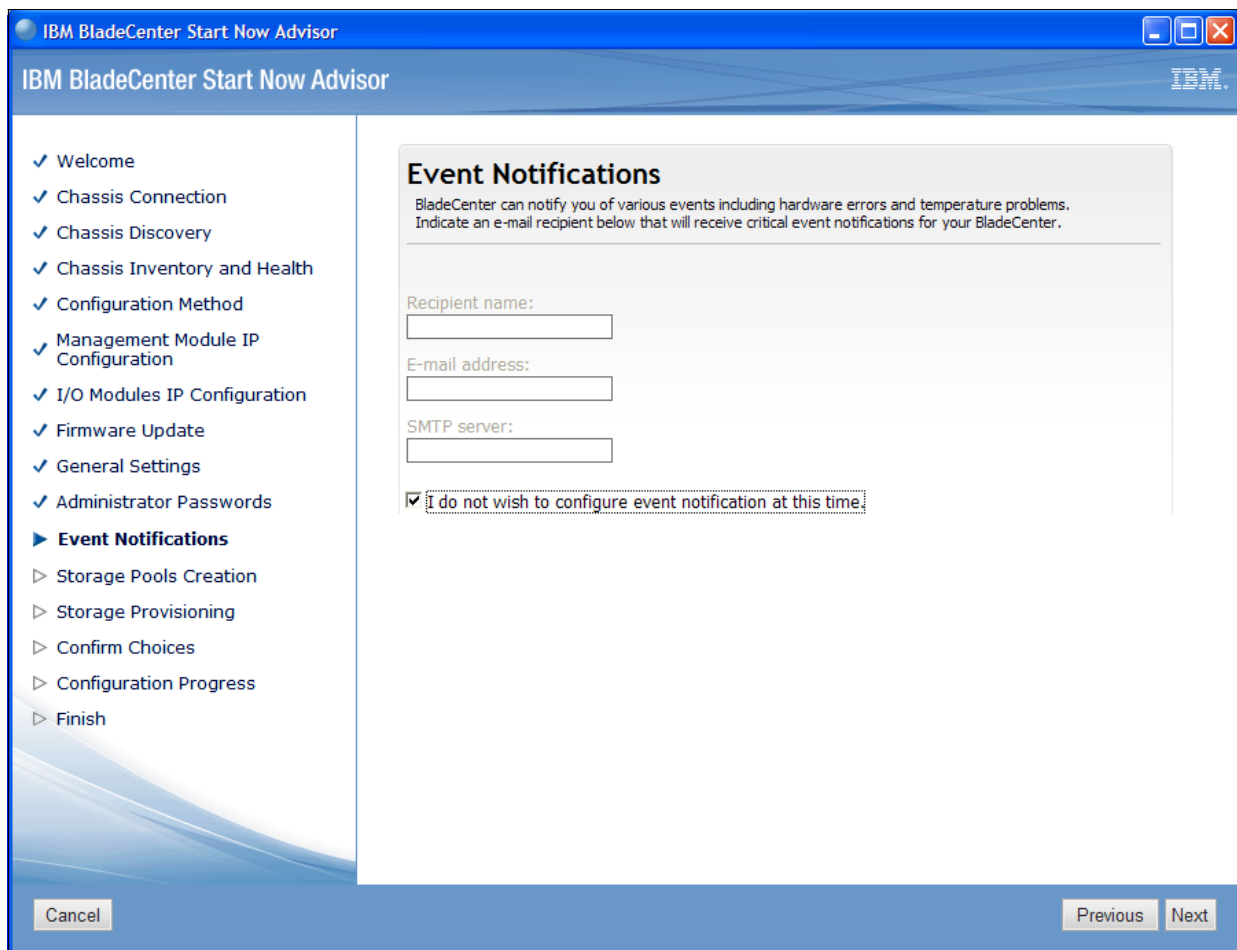

Figure 2-11 Configuring the event notification recipient
11. In the “Event Notifications” panel (Figure 2-11), specify the recipient’s e-mail address and server for event notification. A test of alert notification can be sent from the Alerts menu of the AMM Web interface after the AMM has been restarted.